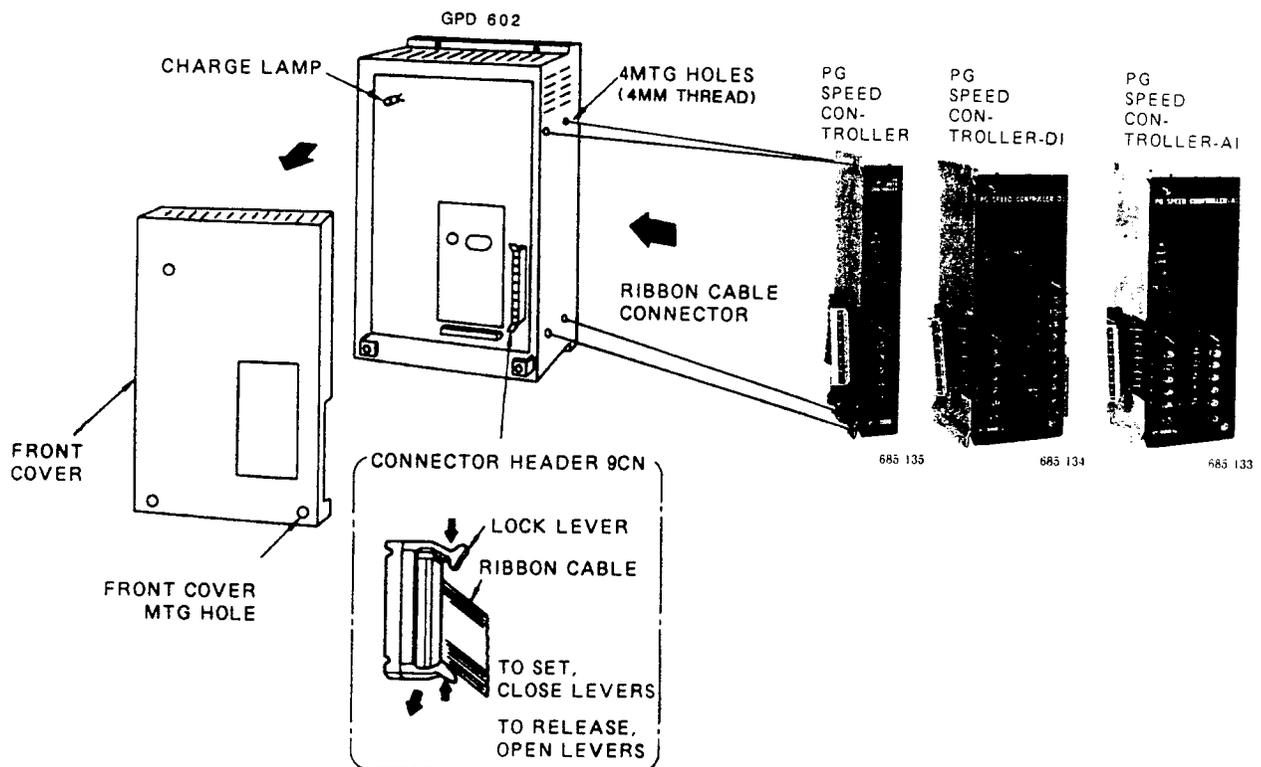

Figure 2. Installation of PG Speed Controller on GPD 602
3. See Figure 2. Install the PG Speed Controller on the right side of the GPD 602 through M4 tapped holes, and plug-in the ribbon cable connector to the GPD 602 header 9CN. Make sure to lock the connector, closing the lock levers on both sides of the header.